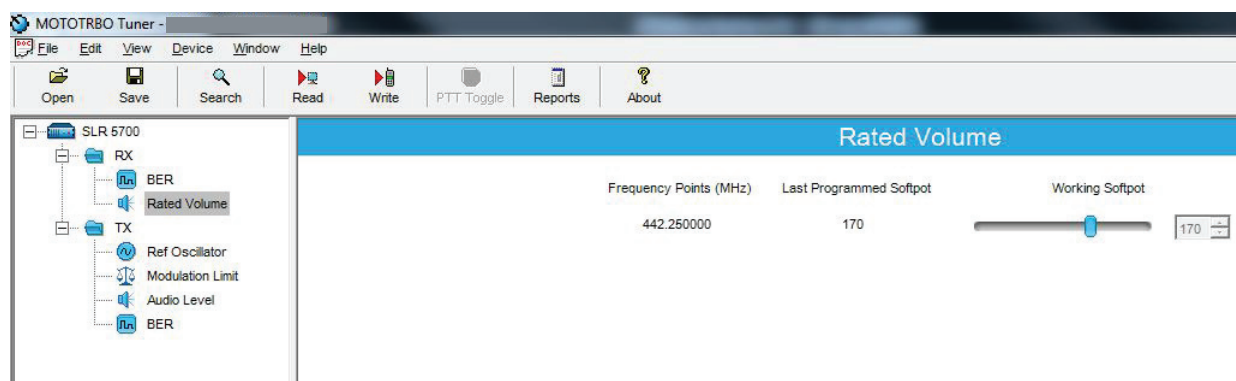

Figure 10-6 Rx Menu tree (Rx Rated Volume)
4. Select "Rx Rated Volume" under the Rx menu in the tree view (See Figure 10-6).